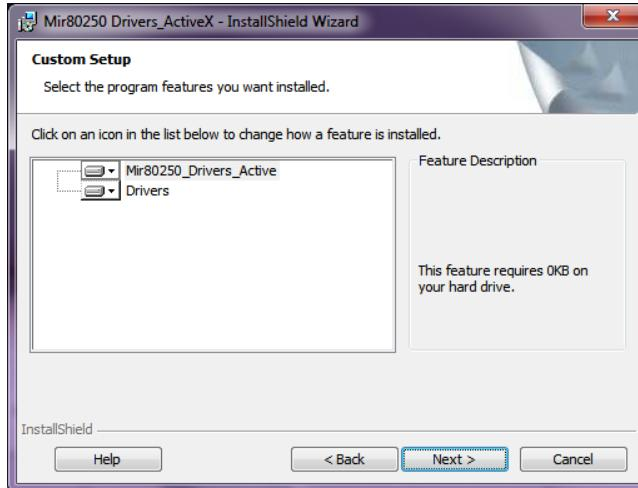

Figure 14: Select Active X Setup
6. Highlight “Mir80350\_Drivers\_Active” and click “Next” per Figure 14.